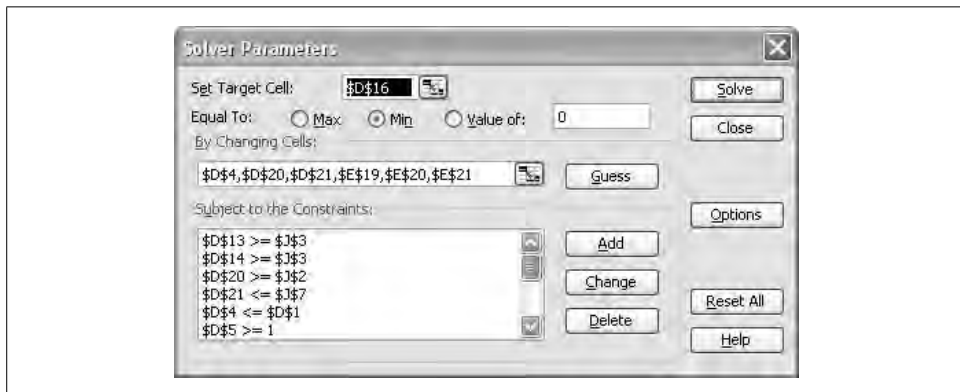

Figure 13-14. Design optimization Solver model
Figure 13-14 shows the Solver model I set up for this problem.
All the code and design requirements discussed earlier become constraints. (See Chapter 9 for more on setting up Solver models and adding constraints.) For example, the *section modulus* (SM) of the stiffened panel (SM top and SM bot in the spreadsheet) must be greater than or equal to the Min. allowable SM specified in cell J3. The corresponding Solver constraints are $\$D\$13 \geq \$J\3 and $\$D\$14 \geq \$J\3 , as shown in Figure 13-14. I added similar constraints for each design requirement listed in cells J1 through J7.